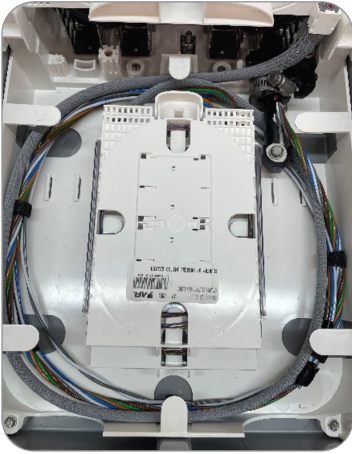
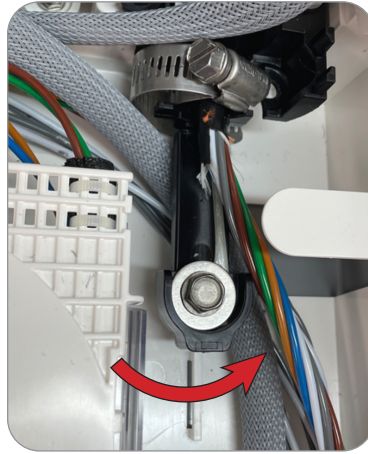

Figure 16
Figure 17
6. Route fiber with one slack loop in the box before going to splice tray (Figure 16). Move fiber under the Cable Attachment Unit if one is installed (Figure 17).